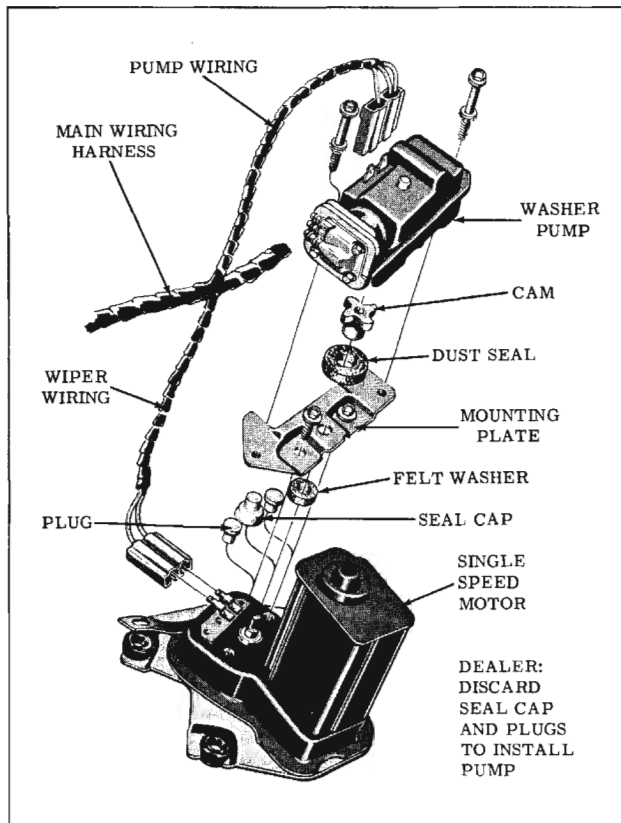

Fig. 14-165 Single Speed Wiper With Washer
1. For wipers equipped with a washer pump remove the two washer pump mounting screws (Fig. 14-165) and lift washer pump off wiper.